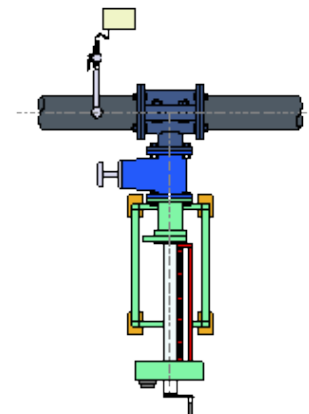

Figure 30 - Drilling Operation
2. Mark dimension (D less B) on stay bar of drilling machine with chalk see Figure 30.
6. Fit the extension handle and drill main with cup drill, feeding gently. If using an air driven motor carryout item 5 gently until pilot has been drilled, then open the air supply fully.